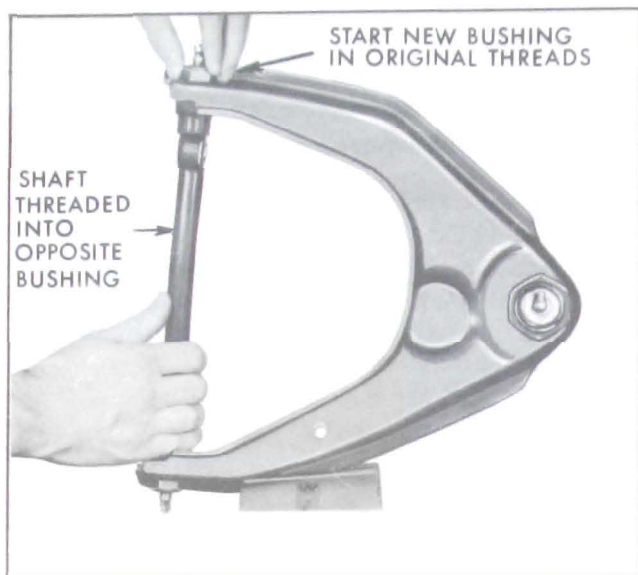

Figure 7-11—Upper Control Arm Bushing Replacement
5. Start second bushing into original threads of arm with shaft threaded into opposite bushing. See Figure 7-11.